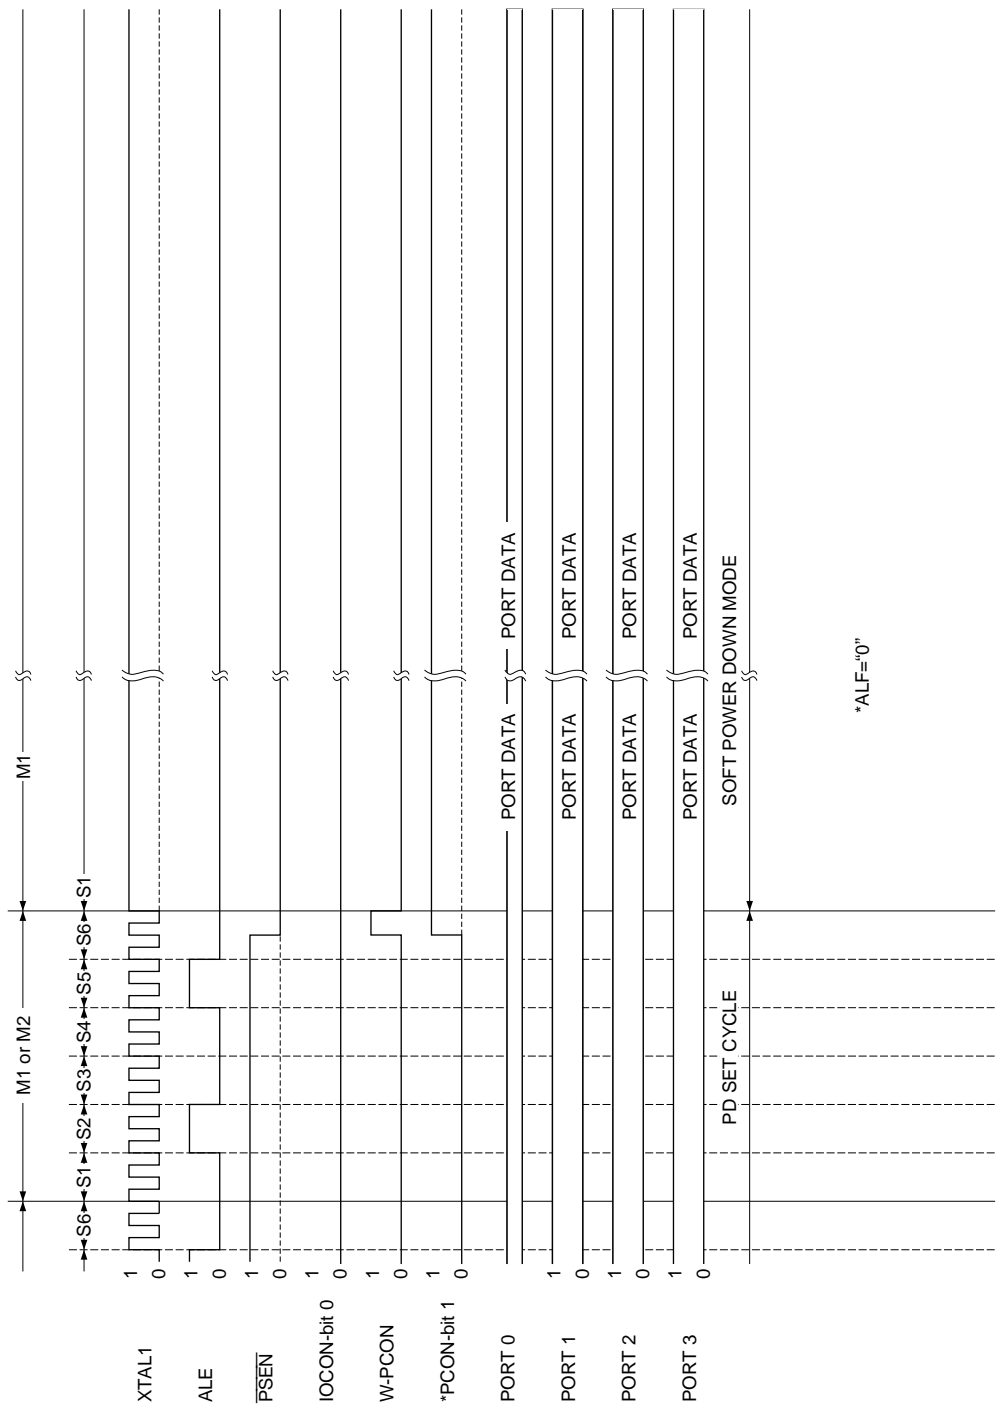

Figure 4-60 Soft power down mode setting time chart (internal ROM mode)
The CPU pin status during soft power down mode (PD) with "0" on the ALF bit is /outlined in Table 424, and the corresponding time charts for starting soft power down mode are shown in Figures 4-60 and 4-61.